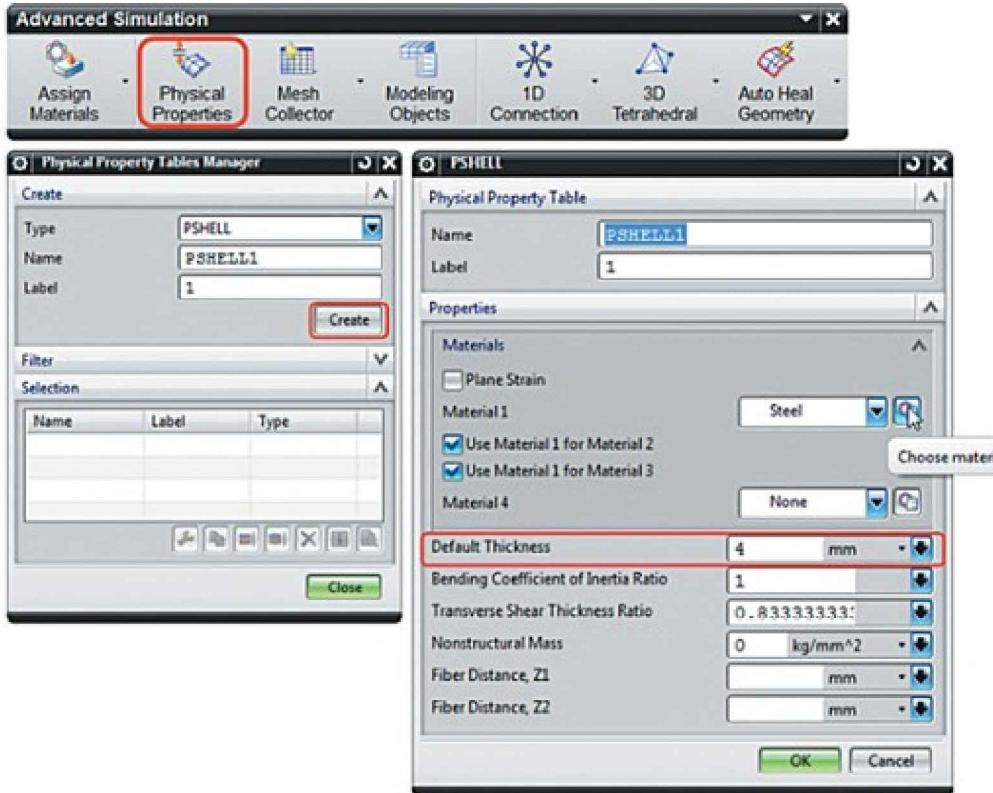

Figure 2.7. Creating physical properties of shell elements
- 3.3. On the **Finite Element Model** toolbar, use the **Physical Properties** command. In the **Physical property tables manager** dialog box, specify the following settings (Figure 2.7):
- In the new *PSHELL* dialog box, do the following (Figure 2.7):